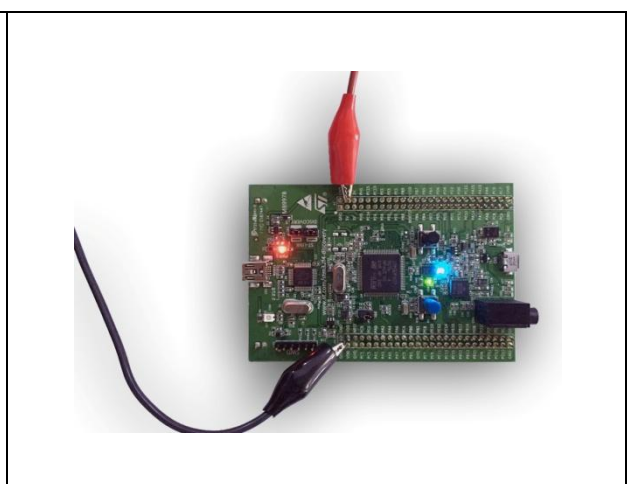

Figure 33: Connecting the Power Cables to the Circuit - Energizing (Step 2)
2. The Power Cable is connected to the electronic circuit power supply. Red Cable (+), Black Cable (-). (Figure 33)
**Note:** In the IR Temperature Test, the electronic circuit board may also be energized by clicking the "Power On" Button. (Figure 33)